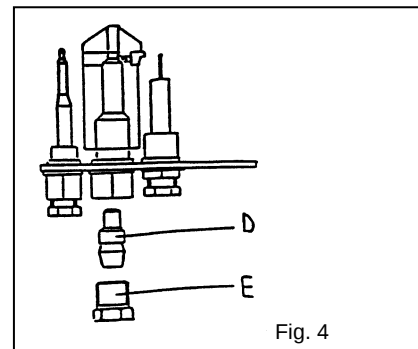

Fig. 4
5.2 Replacement of the injector of the pilot light (Fig. 4)